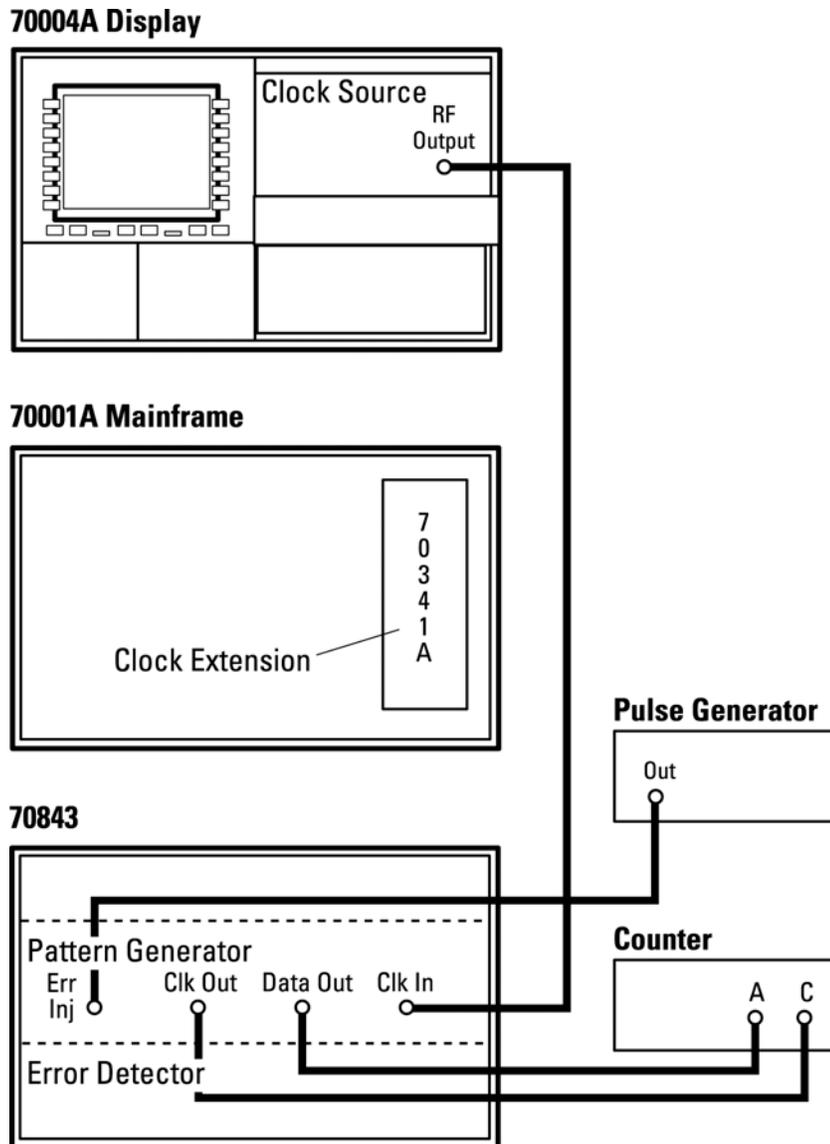

Figure 11-12
1. Connect a pulse generator to the pattern generator ERROR INJECT INPUT port and connect a frequency counter as shown in Figure 11-12.